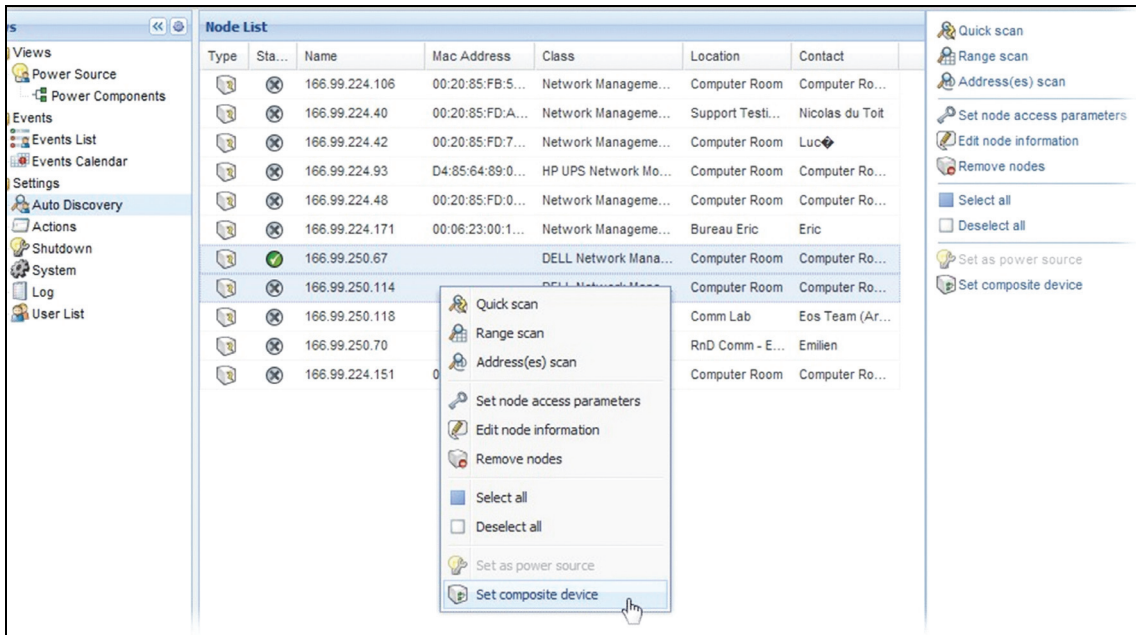

Figure 63. Selecting Set Composite Device for Nodes
- 3 Click **Set composite device** as shown in Figure 63